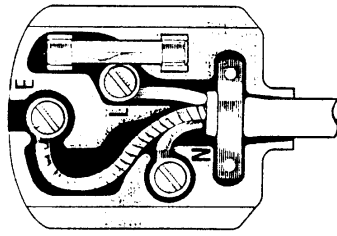

Fig.8
27. Fig. 8 shows the wires to a fused 13 amp plug when the top is removed. State below the colour of sheathing to each wire.